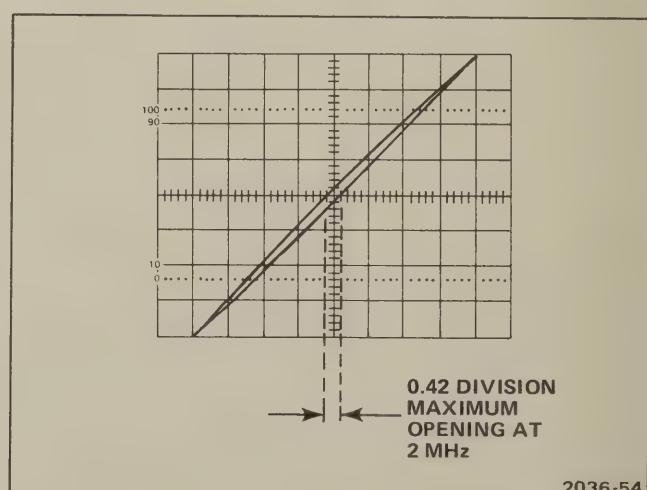

Fig. 6-12. X-Y phase difference.
- b. Connect test equipment as shown in Figure 6-12.
- f. **ADJUST**—L1103 for minimum horizontal opening at the center horizontal graticule line (see Figure 6-12).